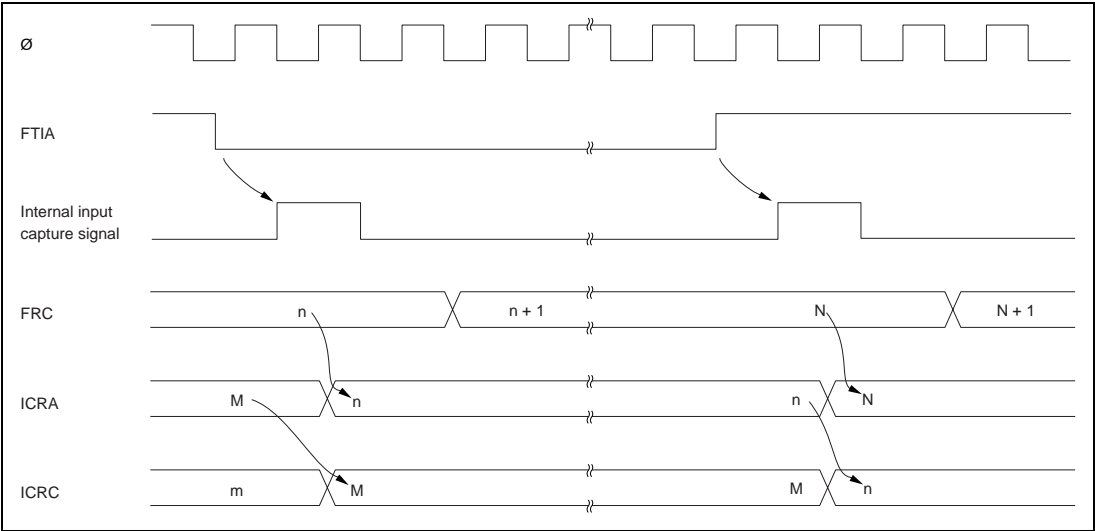

Figure 7.10 Input Capture Timing (Usual case)
(1) Input Capture Timing: An internal input capture signal is generated from the rising or falling edge of the signal at the input capture pin FTIx (x = A, B, C, D), as selected by the corresponding IEDGx bit in TCR. Figure 7.10 shows the usual input capture timing when the rising edge is selected (IEDGx = “1”).